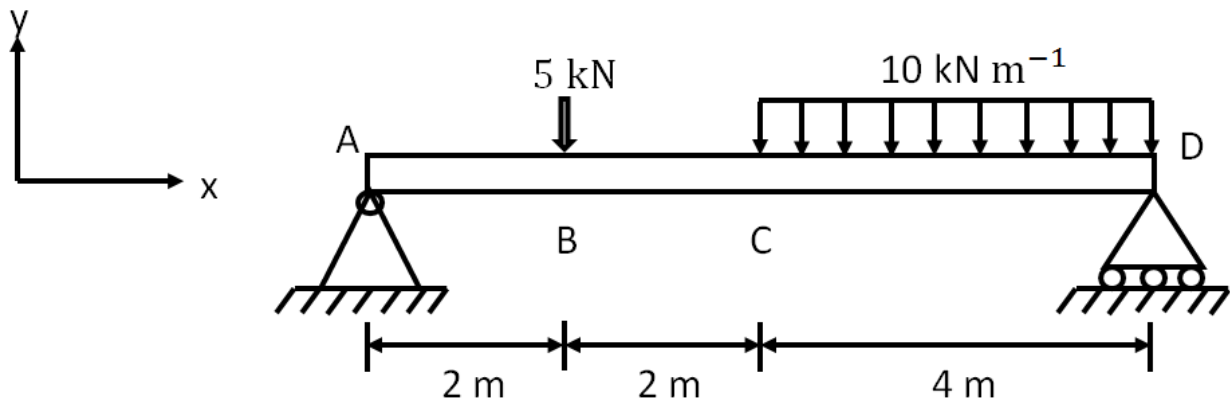

Fig. Q 4 (c)
- Use unit load method to find the deflection at the center of the beam shown in Fig. Q 4 (c). Take: $E = 0.2 \text{ GPa}$ and $I = 400 \times 10^6 \text{ mm}^4$. (14 marks)